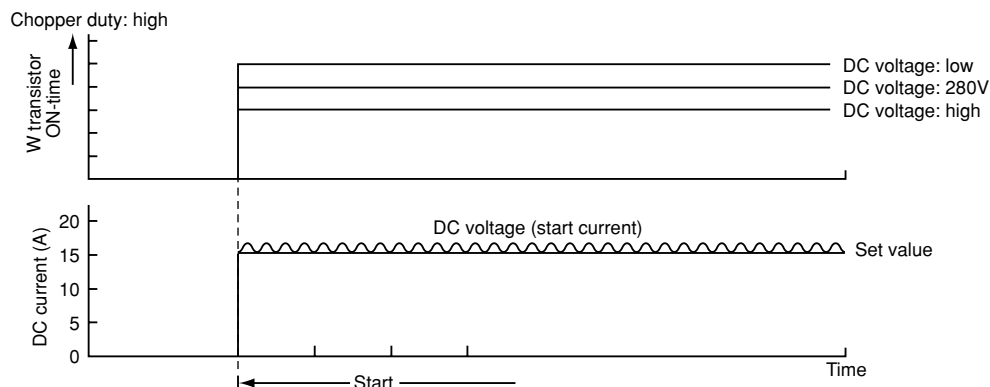

Fig. 8-10
(2) Varies the turn-ON time of the W⁺ transistor according to the DC voltage level and the start is controlled so the start current is approx. 10A as shown in Fig. 8-10.